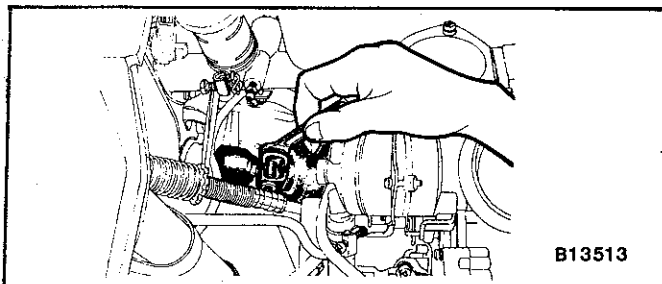

Fig. 2—Removing the clamp bolt
- (1) Remove the clamp bolt from the coupling between the steering shaft and the steering gear mainshaft (see fig. 2).